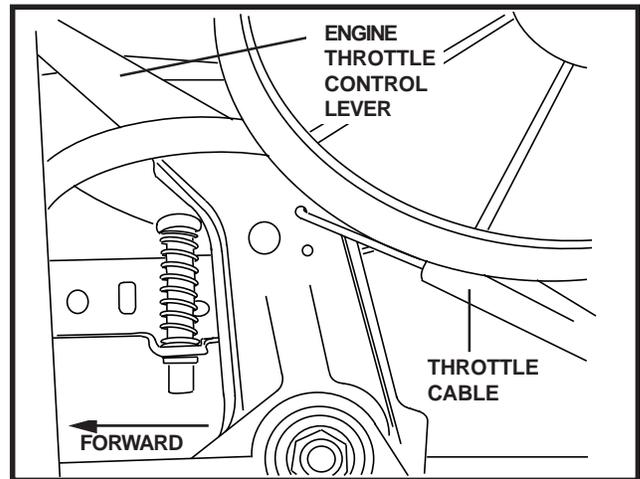

FIGURE 7
- Push throttle control lever on console forward to full extent. Pull throttle control lever on engine back as far as possible. See Figure 7.
14. Insert "L" end of throttle cable into the outside hole of the engine throttle control lever. Figure 7.